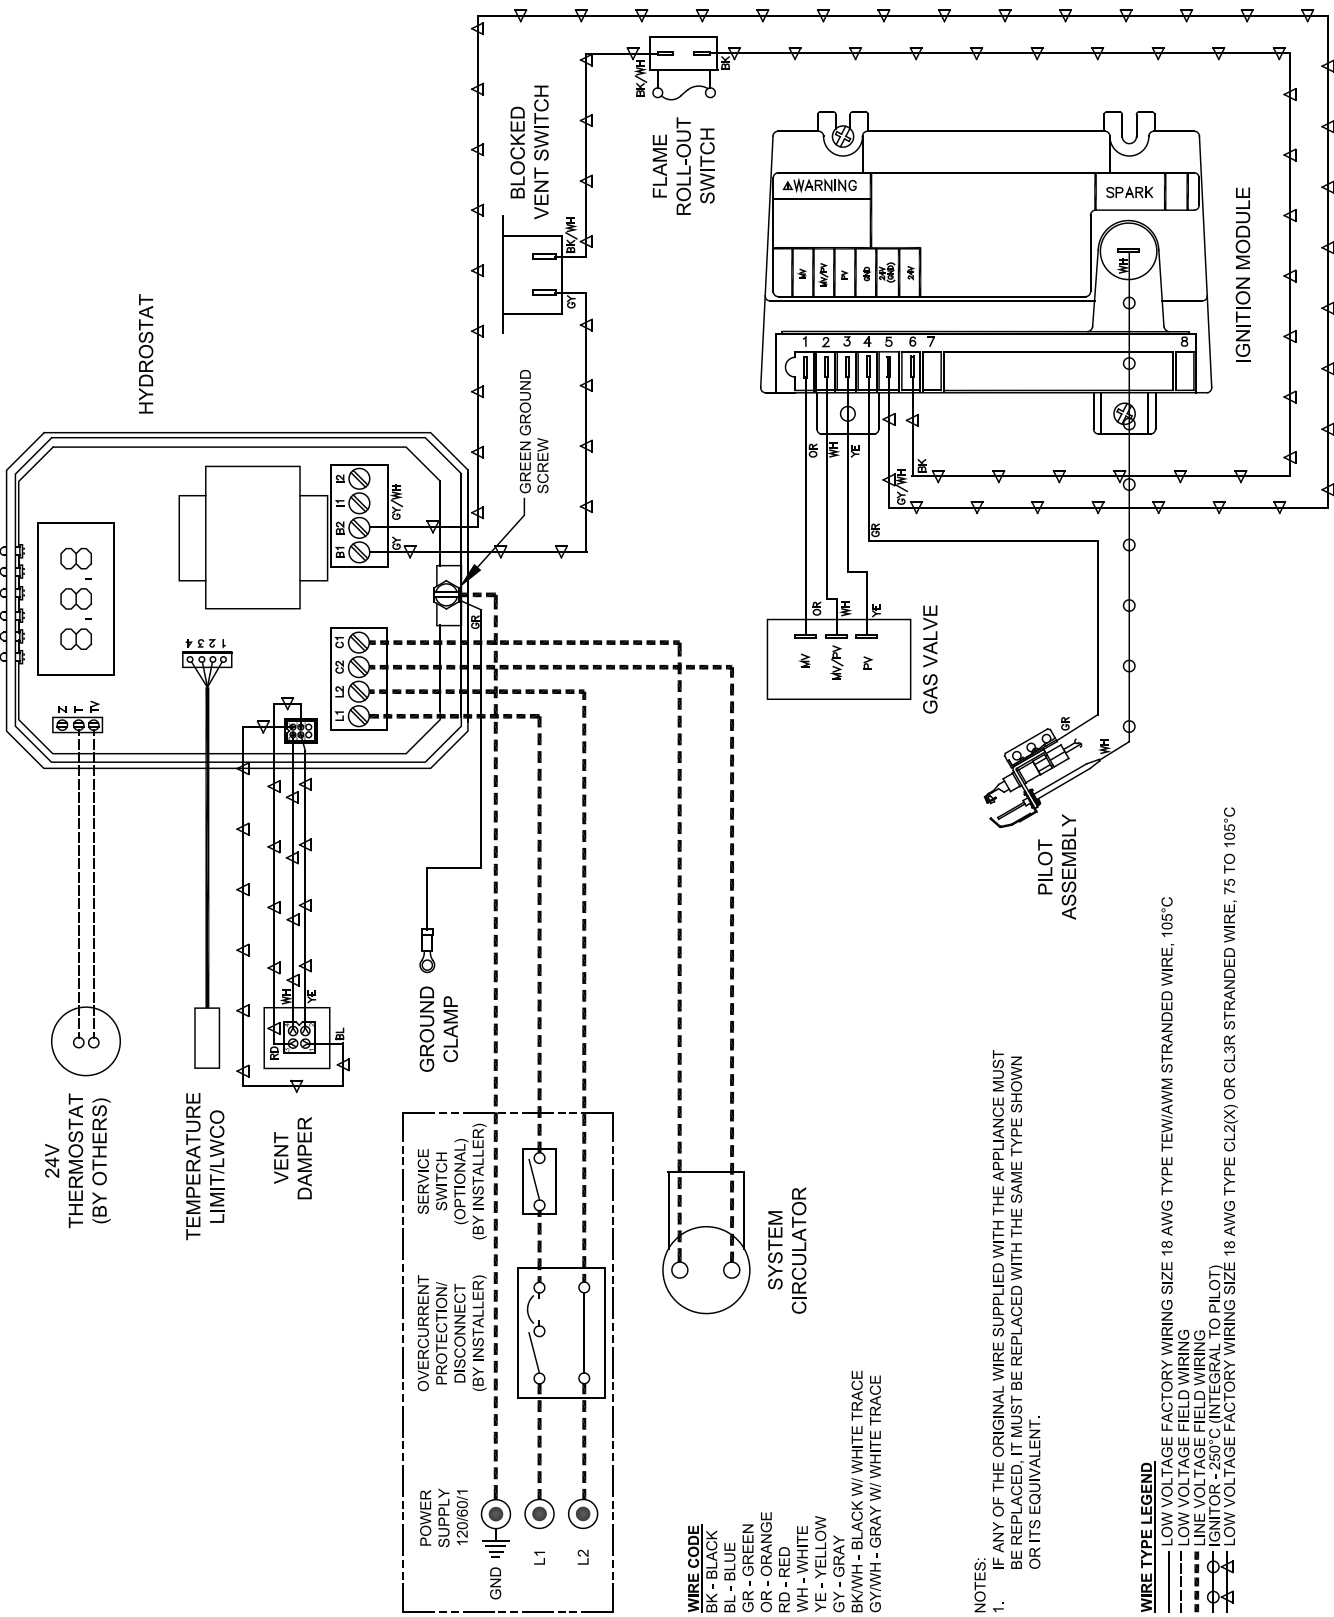

Figure 8: Wiring Connection Diagram
- C. Wire boiler.** Boiler is rated for 120 VAC, 60 hertz, less than 12 amperes. A separate electrical circuit must be run from the main electrical service with an over-current device/disconnect in the circuit. A service switch is recommended and may be required by some local jurisdictions. Connect to L1, L2 and green ground screw. See Figures 8 and 9.
Jumper Thermostat connections 'TW' and 'TR' in AquaSmart Control. See Figures 8 and 9. Allow burners to operate until shutdown by limit. REMOVE JUMPER.